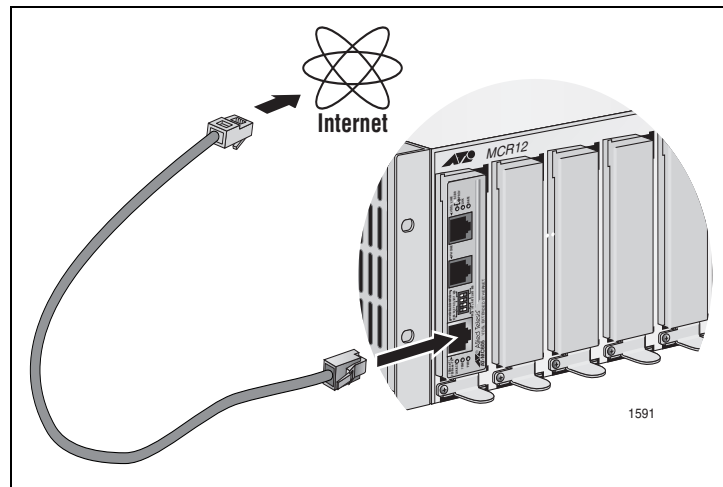

Figure 17. Connecting AT-MC605 Ethernet Port to an Internet Service Provider
1. Connect the ethernet cable from the ethernet port to the Service Provider box (ISP) in your wiring closet, as shown in Figure 17.